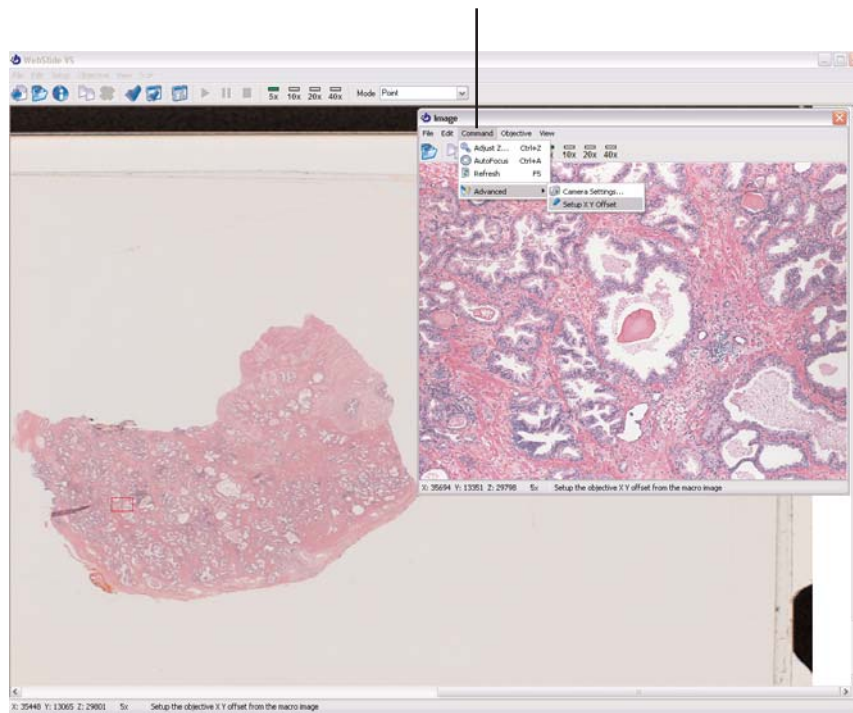

Figure 49. Setting the X Y offset.
6.) In the Image window, click **Command | Advanced | Setup X Y Offset** as shown in Figure 49.